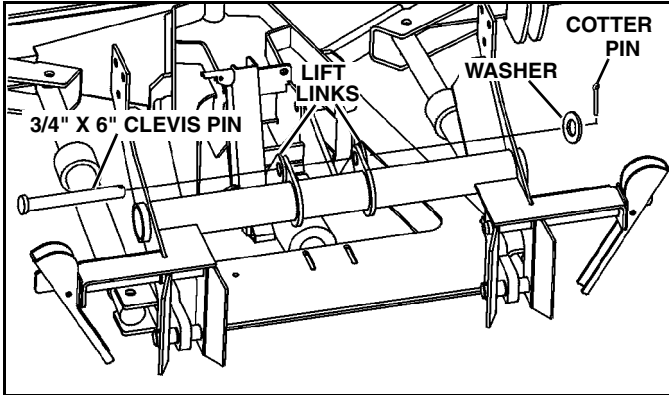

Figure 1-11
20. Pin the lift link to the light/lift bar using the 3/4" x 6" clevis pin from the mounting parts bag. (See Figure 1-11).